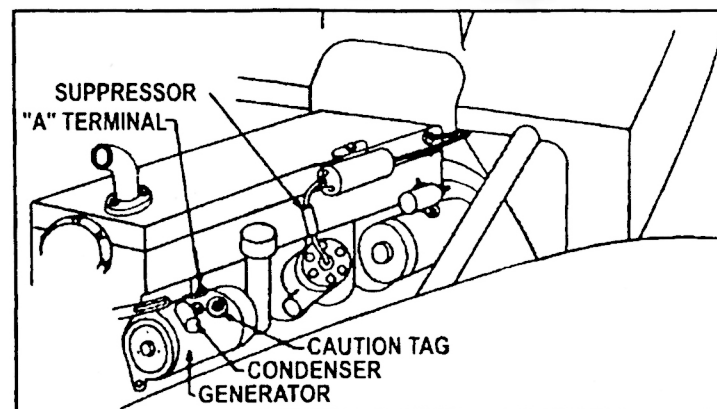

FIG. 4
1. Install the generator interference elimination condenser (part No. 117301) on the generator, fastening it under the ground screw on the generator (see Fig. 4). Be sure to clean off any paint or dirt where you mount the condenser. Do not use the "FIELD" terminal. Connect the condenser lead to the "A" terminal on the generator. If generator interference persists, it can be eliminated by cleaning the commutator and re-seating the brushes.
3. Cut the distributor-to-coil high tension lead about one inch from the distributor cap and install the screw-in-type suppressor resistor. (See Fig. 4.)